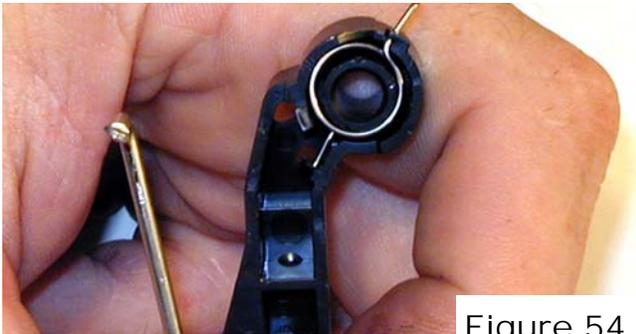

Figure 54
32) Install the spring in the drum cover arm as shown. Install the metal bar into the hole and slot. Install the arm. See **Figures 54 & 55**